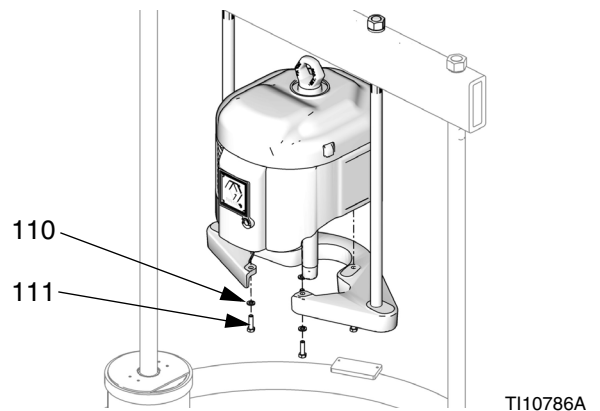

FIG. 26: NXT on D200 with Small Platen
4. Position mounting plate (109) to ensure top of motor will clear the crossbar. See FIG. 26. Using a capable hoist, attach motor to mounting plate (109) using screws (111) and washers (110).